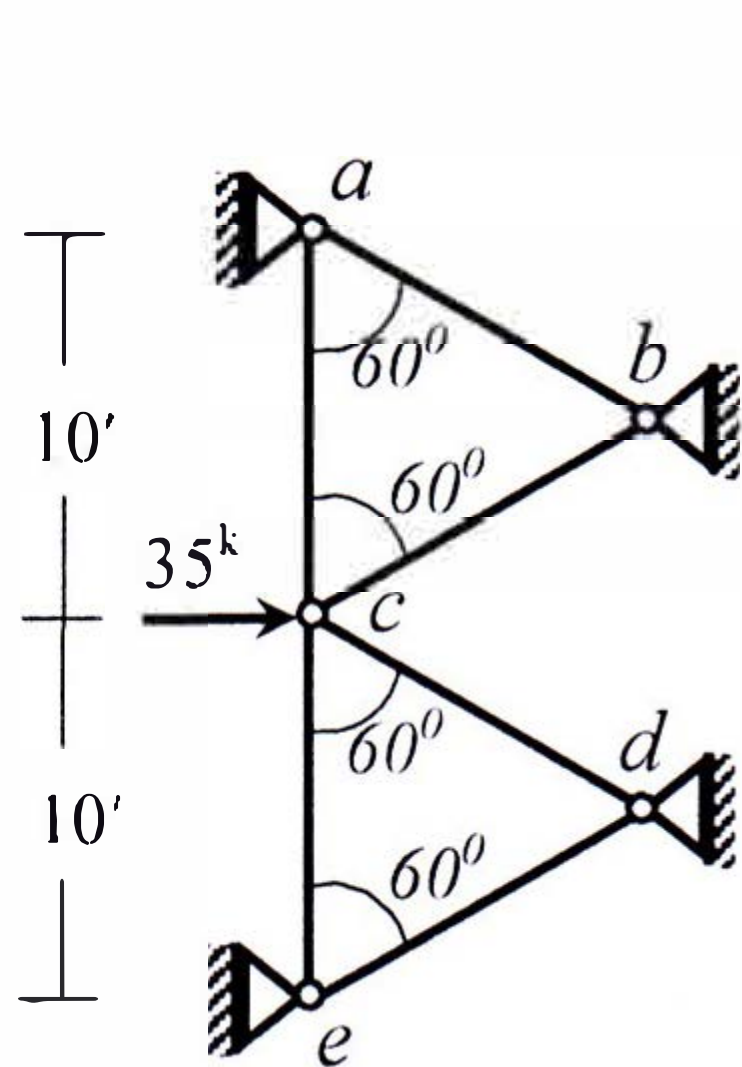

Fig. 1
1. Identify zero-force members of the truss *abcde* loaded as shown in *Fig.1*. Determine the displacements of joint *c* [Given: $EA/L = 1000$ k/ft].